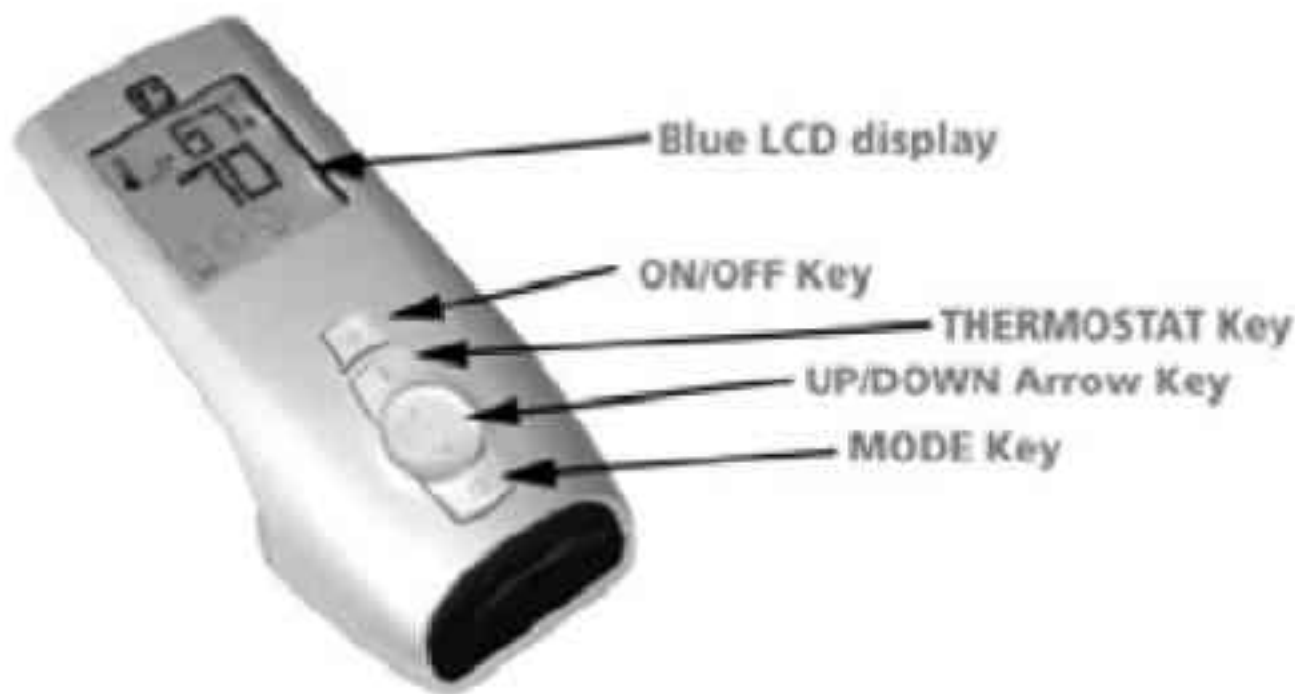
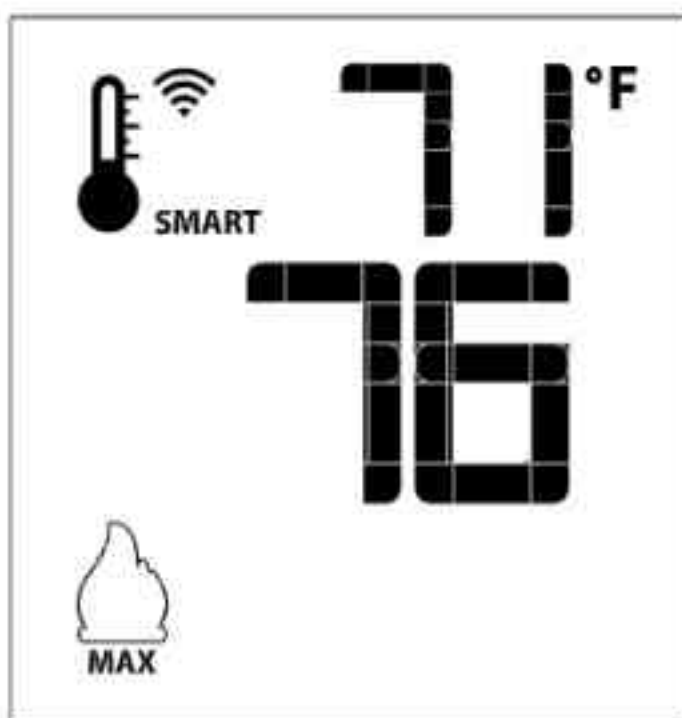
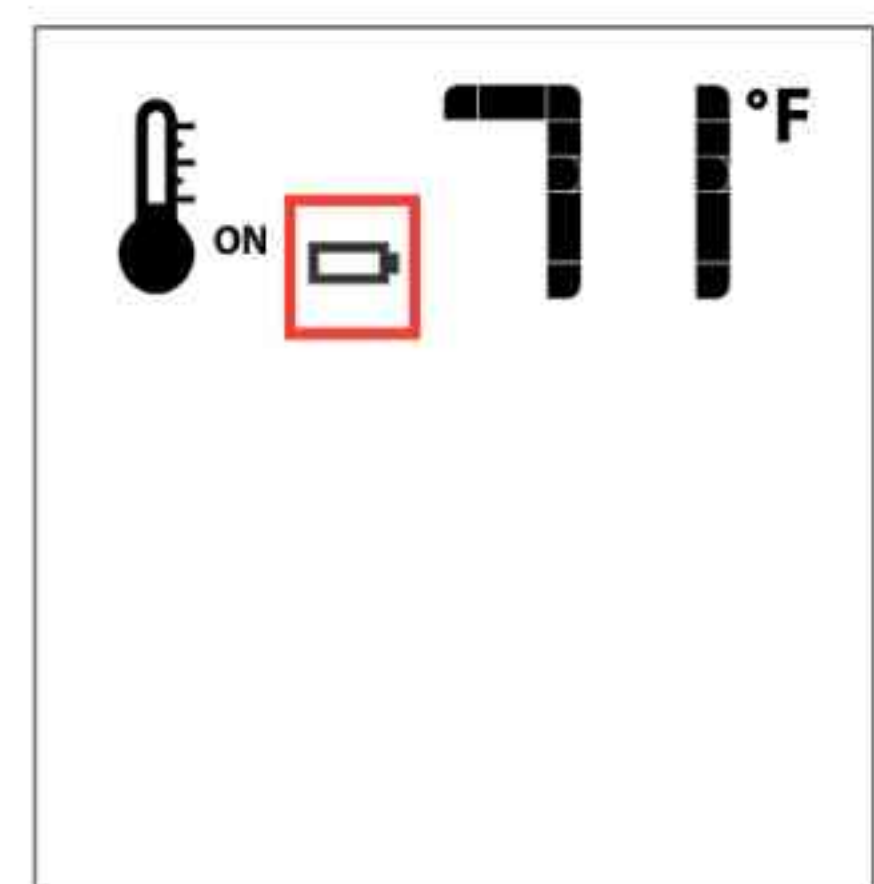

Figure 1: Proflame Transmitter
Figure 11: Smart Flame Function
Figure 22
The Proflame Transmitter uses a streamline design with a simple button layout and informative LCD display (Fig. 1). A Mode Key is provided to index between the features and a Thermostat Key is used to turn on/off or index through Thermostat functions (Fig. 1 & 2). Additionally, a Key Lock feature is provided (Fig. 22).
The Remote Control can operate as a room thermostat. The thermostat can be set to a desired temperature to control the comfort level in a room. To activate this function, press the Thermostat Key (Fig. 1). The Lcd display on the Transmitter will change to show that the room thermostat is "ON" and the set temperature is now displayed (Fig. 9). To adjust the set temperature, press the Up or Down Arrow Keys until the desired set temperature is displayed on the LCD screen of the Transmitter.
To activate this function, press the Thermostat Key (Fig. 1) until the word "SMART" appears to the right of the temperature bulb graphic (Fig. 11).
If the appliance is equipped with a hot air circulating fan, the speed of the fan can be controlled by the Proflame system. The fan speed can be adjusted through six (6) speeds. To activate this function use the Mode Key (fig.1) to index to the fan control icon (Fig. 13). Use the Up/Down Arrow Keys (fig.1) to turn on, off or adjust the fan speed (fig. 14). A single "beep" will confirm reception of the command.
The auxiliary function controls the AUX power outlet by the dimmable light control. To activate this function use the Mode Key (fig. 1) to index to the AUX icon (fig. 15 & 16).
The intensity of the output can be adjusted through six (6) levels. Use the Up/Down Arrow Keys (fig.1) adjust the output level (fig. 16). A single "beep" will confirm reception of the command.
The secondary burner is controlled by the split Flow. To activate this function use the Mode Key (fig. 1) to index to the SPLIT FLOW mode icon (fig. 17 & 18).
With the system in "OFF" position press the Mode Key (fig. 1) to index to the CPI mode icon (fig. 19 & 20).
When the Transmitter batteries are low, a Battery Icon will appear on the LCD display of the Transmitter (Fig. 22) before all battery power is lost. When the batteries are replaced this icon will disappear.